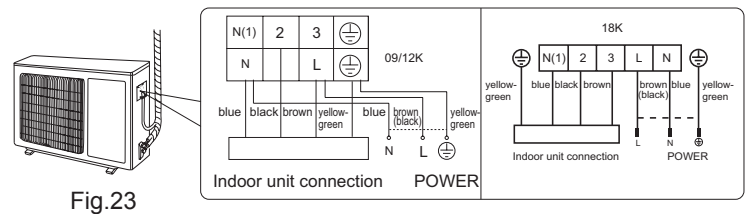

Fig.23
- (1) Remove the wire clip; connect the power connection wire and signal control wire (only for cooling and heating unit) to the wiring terminal according to the color; fix them with screws.(As show in Fig.23)